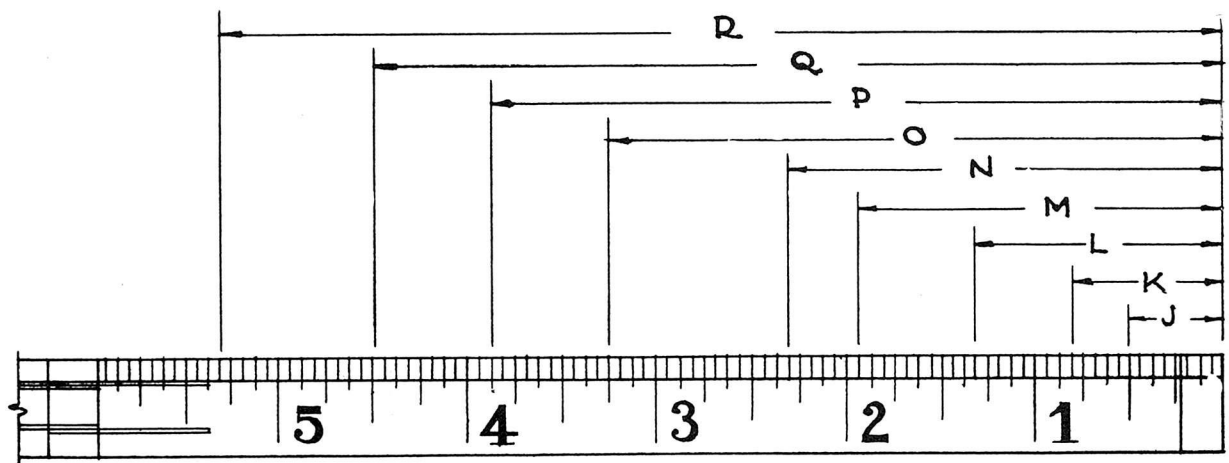

Fig. 2
2. Write in figures, the inches and fractional parts of an inch represented by the dimensions lettered from J to R in Figure 2.